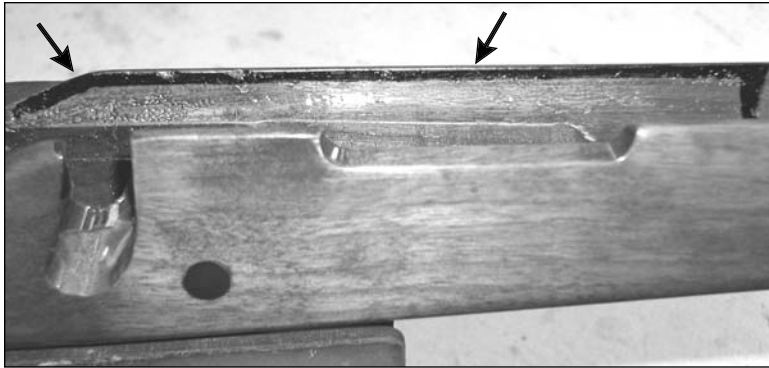

Figure 7A: Lines show limit of relief.
4. For round-bottomed receivers, such as the Remington M700, use a pen or pencil to draw a line in the left side of the receiver inletting, 1/16" (.0625") down from the top edge of the stock. Extend the lines forward to the barrel channel, and rearward to within 1/4" (.250") of where the tang area begins (where the stock begins to slope down and to the rear). (See Figure 7A). Use the marker to cover the area between the top of the stock and the line. Because the stock line is lowered on the right side to clear the ejection port, drawing the lines on this side is limited to the areas adjacent to the front and rear receiver rings.